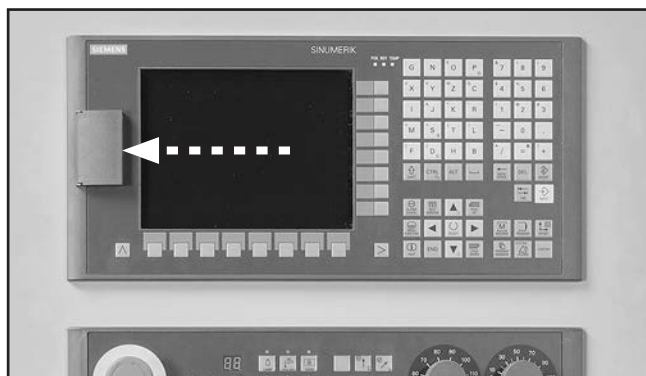

Figure 120. USB interface location on PPU.
2. Open USB interface cover and insert USB flash drive (see **Figure 120**).